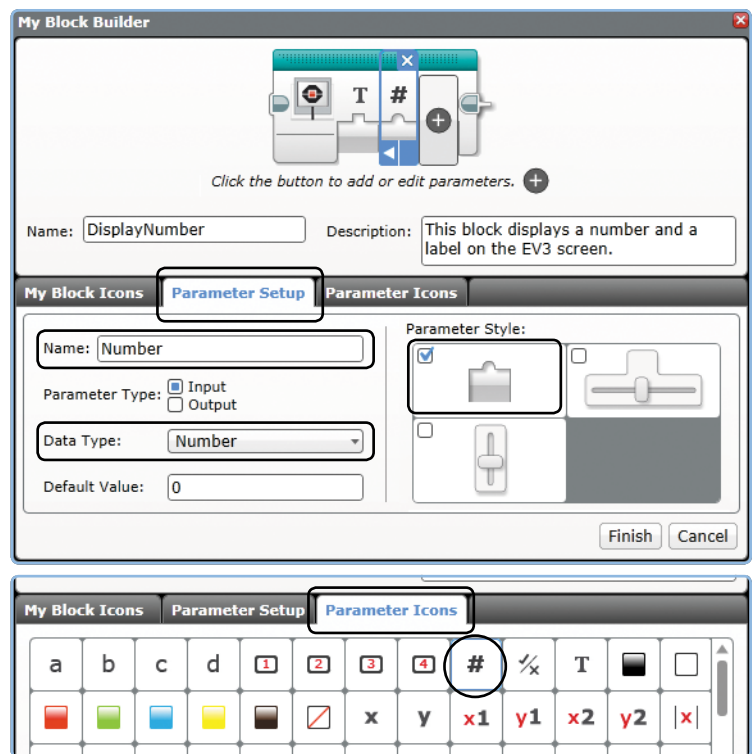

Figure 15-19: Configuring the Number input parameter
7. Now, select the second parameter, and configure it as a Numeric input called *Number*, as shown in Figure 15-19. The Default Value is set to 0, which means that the Number setting will be 0 by default when you pick it from the Programming Palette later. Choose the standard input plug in the Parameter Style option. This creates a basic Numeric input plug that accepts any value (like the inputs on a Math block), rather than one with a slider that accepts only a range of values (like the Power and Steering settings on the Move Steering block).